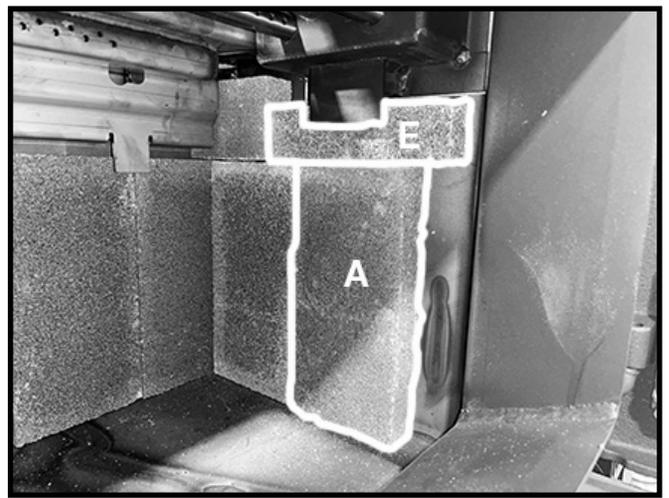

Figure 27: Second side wall firebricks in place.
4. Next, place an "E" firebrick up under the side brick retainer tab and stand another "A" brick beside the first one under the "E" firebrick (Figure 27).